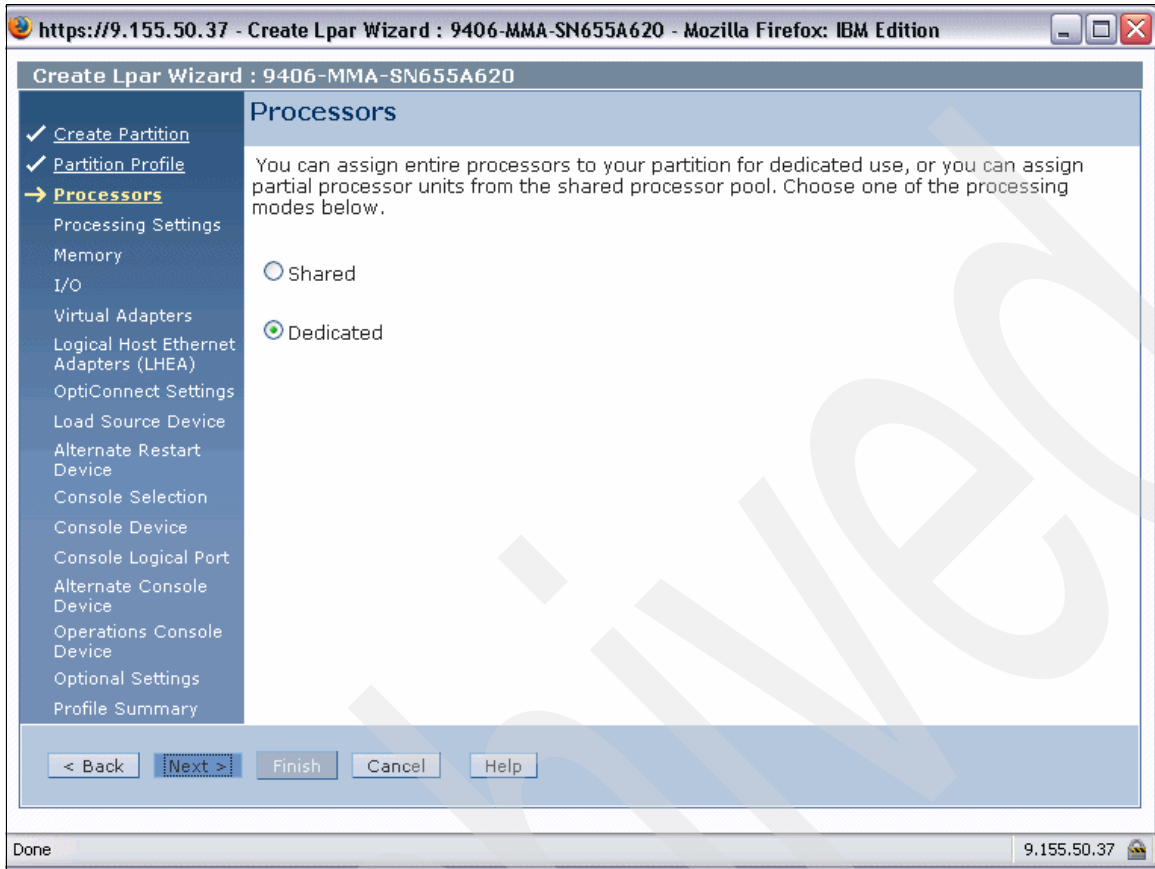

Figure 6-24 Create LPAR Processors dialog
4. For our IBM i partition we prefer dedicated processors, so we select **Dedicated** processors and click **Next** to continue, as shown in Figure 6-24